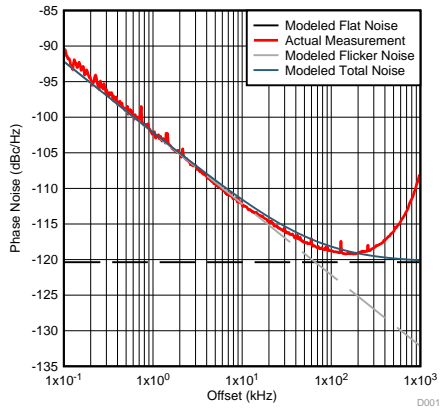

Figure 2. Measurement of PLL Figure of Merit and Normalized 1/f Noise
**Figure 2** shows 2700 MHz output and a 100 MHz phase detector frequency. The modeled noises (Flat, Flicker, and Total) are calculated from the normalized  $-229$  dBc/Hz figure of merit and the  $-120.8$  dBc/Hz normalized  $1/f$  noise from the electrical table. After 200 kHz, the loop filter dynamics cause the noise to increase sharply.